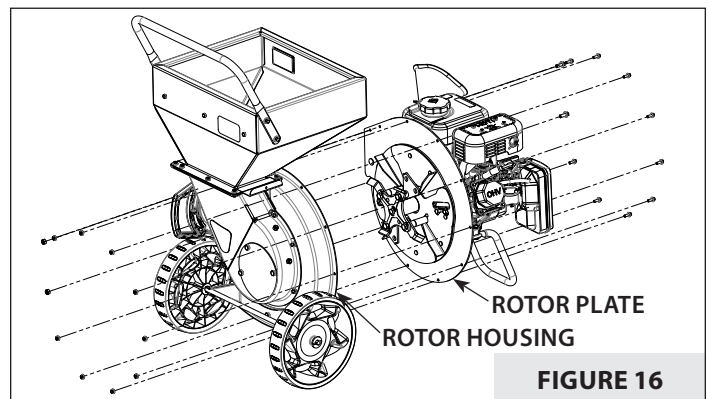
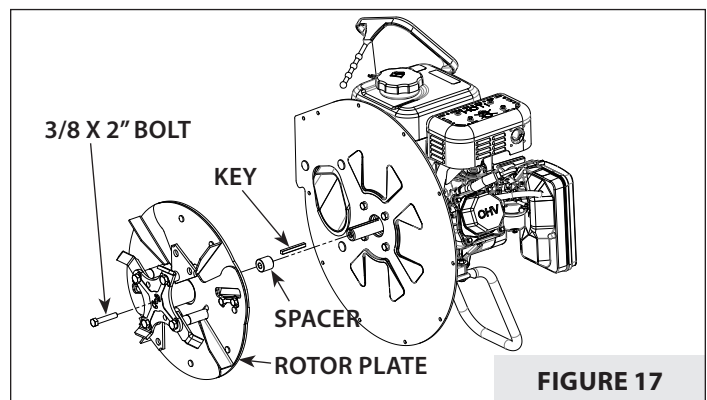

FIGURE 16
FIGURE 17
3. Detach the rotor housing and hopper from the rotor plate. **SEE FIGURE 16.**
4. Bend the side tabs away from the center mounting bolt and remove the bolt (8).
5. Carefully remove the rotor plate, spacer, and key (10) from the crankshaft. **SEE FIGURE 17.**
1. Replace the rotor onto the crankshaft, careful to replace the spacer and key. **SEE FIGURE 17.**
4. Reinstall rotor housing and hopper. **SEE FIGURE 16.**